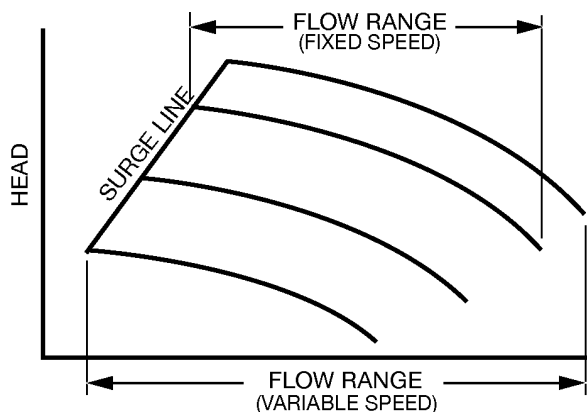

Figure 7. Effect of Speed Range on Overall Flow Range.
- The head/pressure ratio curve is essentially constant with changing volume flow at fixed speed (Figure 7).